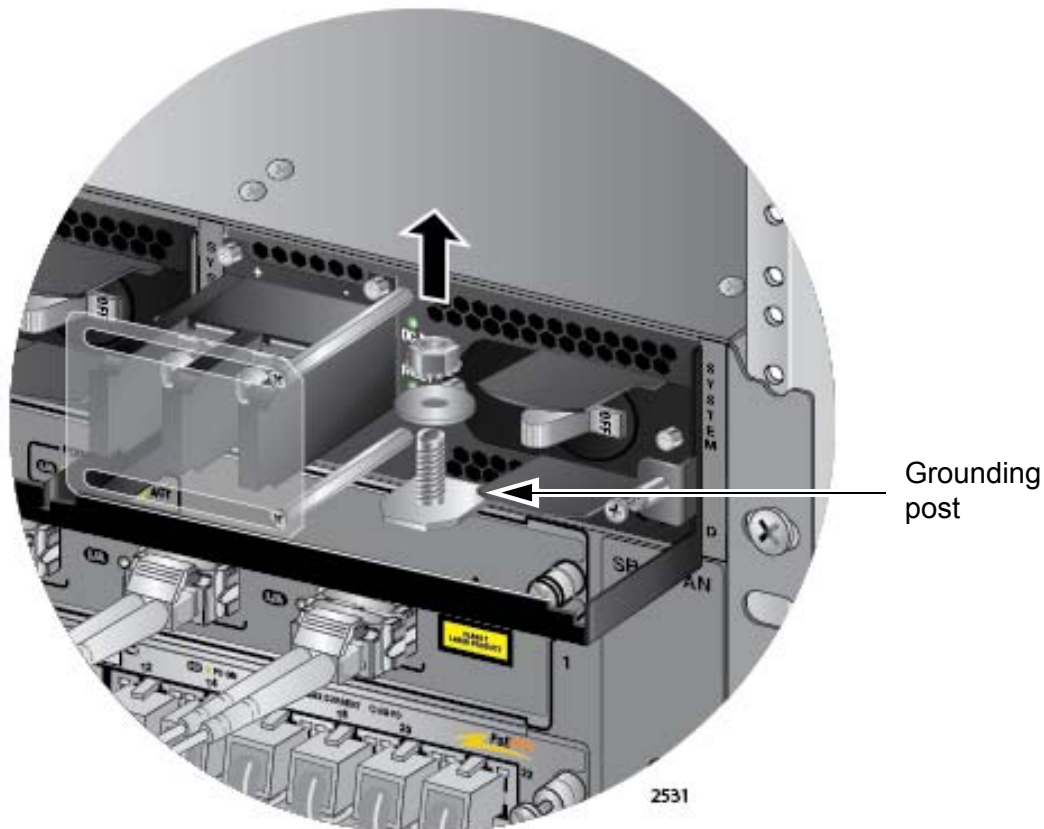

Figure 118. Removing the Nut and Washer from the Grounding Post
3. Use an 8 mm wrench to remove the grounding post nut and washer, shown in Figure 118, from the power supply.
2. Use an 8 mm wrench to remove the grounding post nut and washer, shown in Figure 118 on page 164, from the grounding post on the power supply.